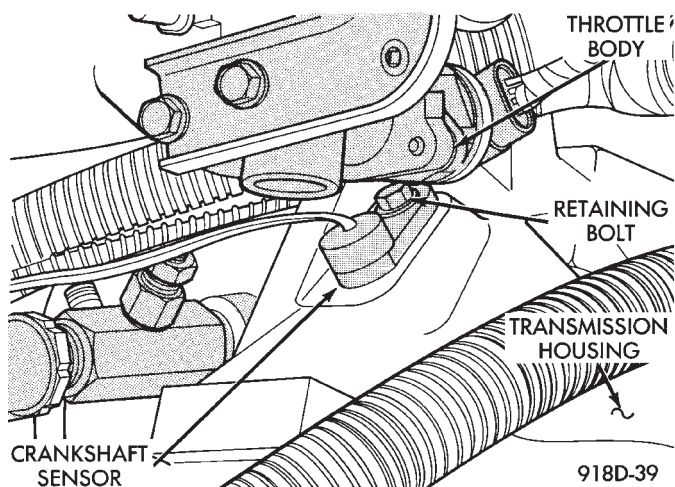

Fig. 8 Crankshaft Sensor Service—Turbo III Engine
- (1) Remove throttle body.
- (2) Remove inter-cooler to turbo-charger air hose.
- (3) Disconnect crank timing sensor pick-up lead at wiring harness connector (Fig. 8).